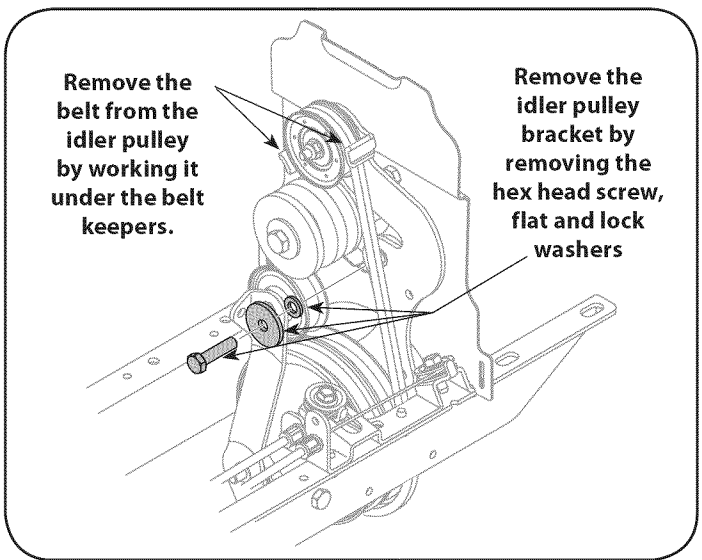

Figure 26
5. Remove the idler pulley bracket by removing the 5/16-24 hex head screw, flat washer and lock washer. See Figure 26.